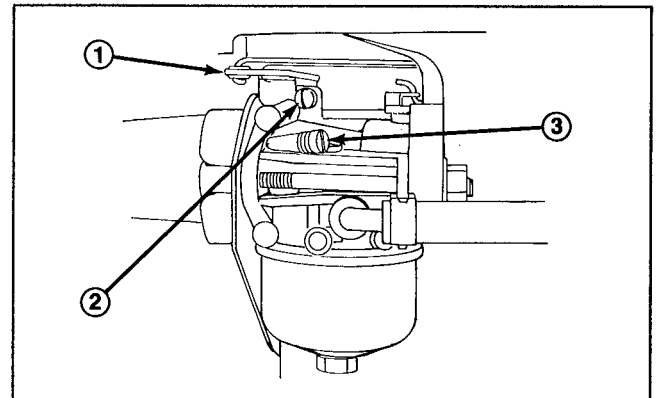

Figure 26
1. Gently turn idle mixture valve clockwise until it just closes (Fig. 26). Turning valve in too far may cause damage.
4. Rotate throttle (Fig. 26) counterclockwise and hold against idle speed adjusting screw (Fig. 26) while turning idle speed adjusting screw to obtain 1750 RPM.